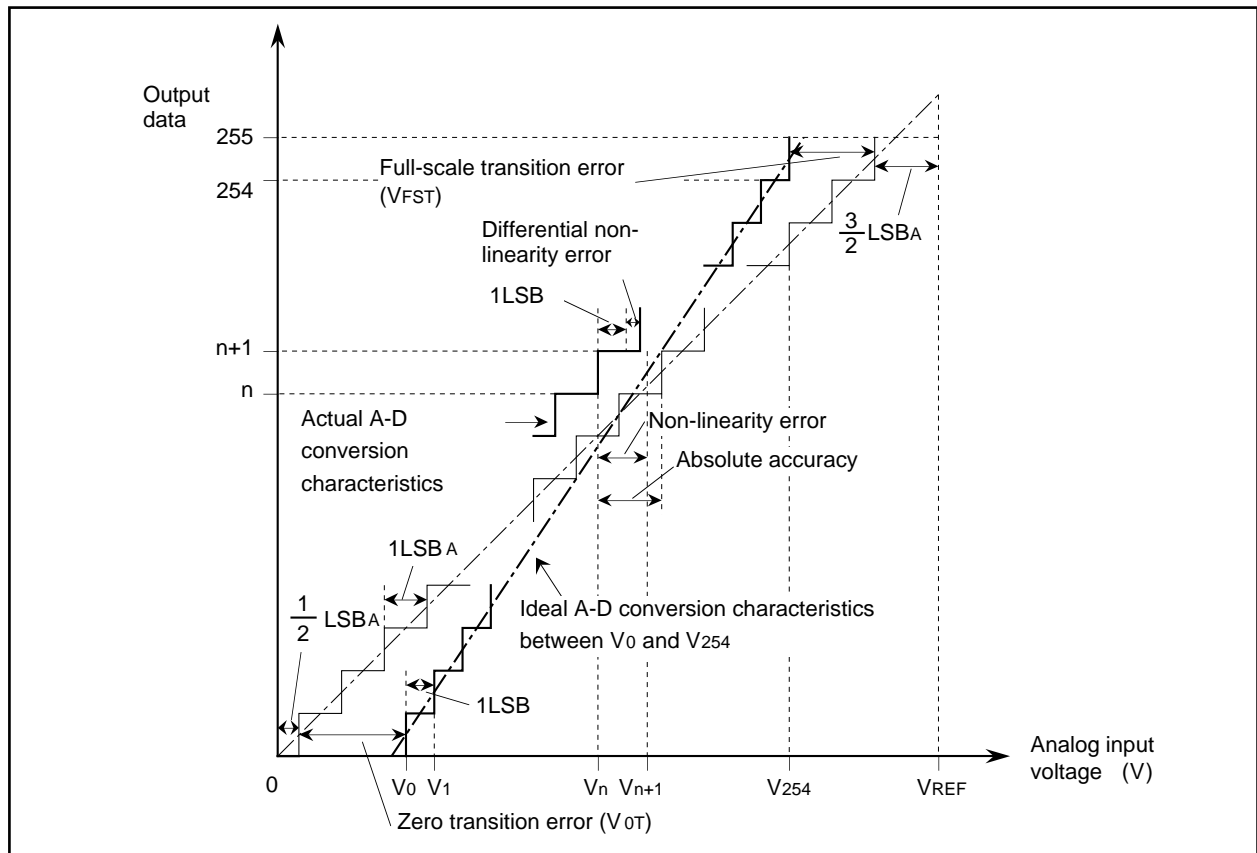

Fig. 24. Definition of A-D Conversion Accuracy
**Note:** The analog input voltage "Vn" at which A-D conversion output data changes from "n" to "n + 1" (n ; 0 to 254) is as follows (refer to Figure 24) :